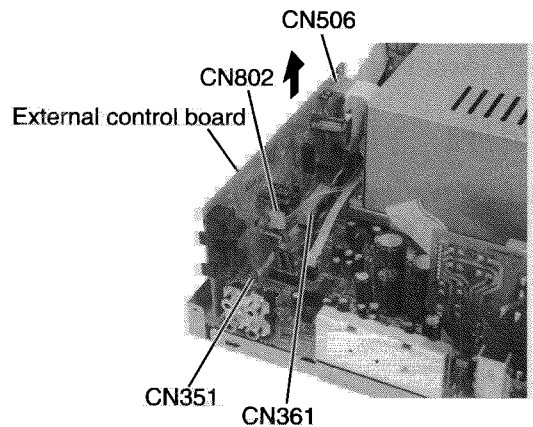

Fig.16
■ Removing the external control board (See Fig.16)